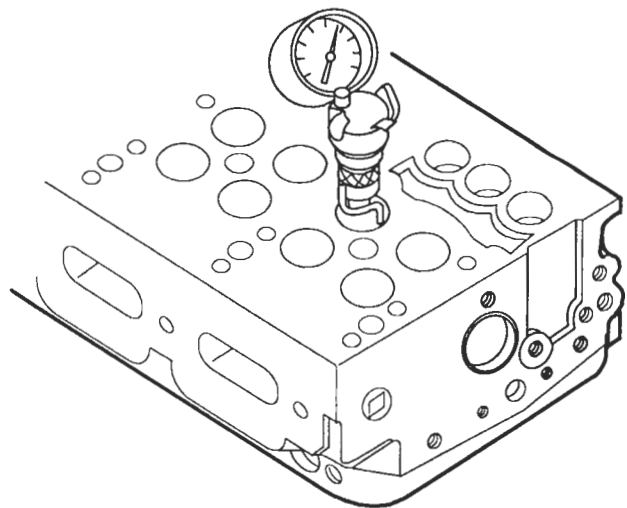

Figure 16. Determining Concentricity of Valve Seat Insert with Dial Indicator
4. After grinding has been completed, clean the valve seat insert thoroughly with fuel oil and dry it with compressed air. Set the dial indicator J 8165-2 in position and rotate it to determine the concentricity of each valve seat insert relative to the valve guide (Figure 16.). If the runout exceeds .002 inch, check for a bent valve guide before grinding the insert.